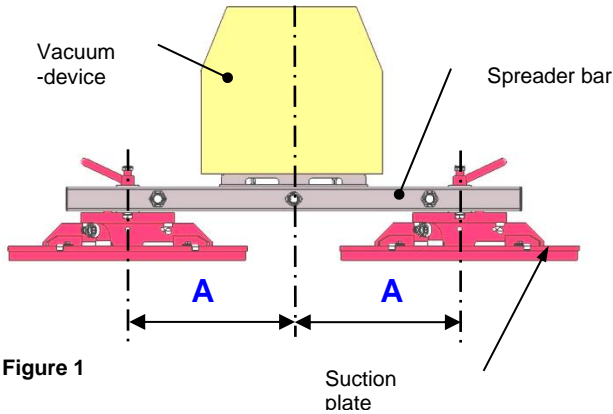

Figure 1
The suction plates must always have the *same* distance (A) to the vertical centre axis of the spreader bar/traverse (see figure 1).